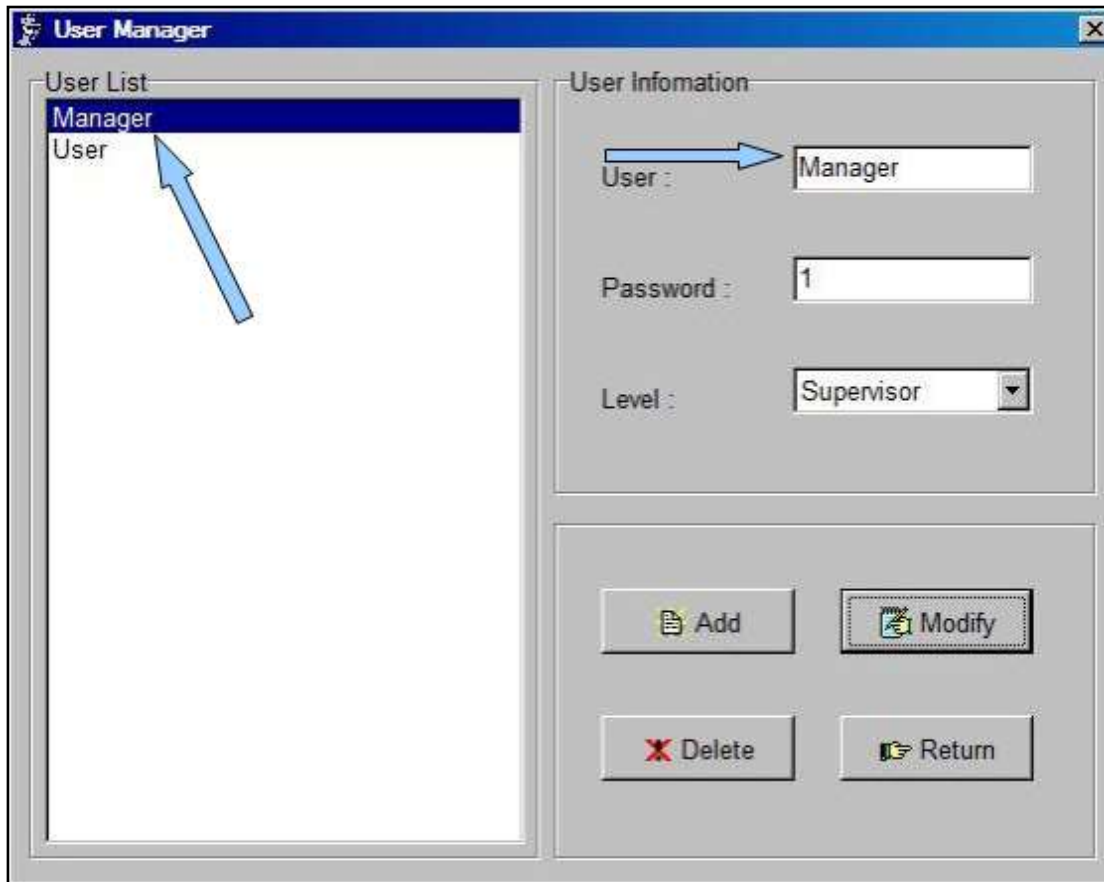

Figure 4-42. Manager Default Information
2. Select Manager in the User List, **Figure 4-42** to see the default information.